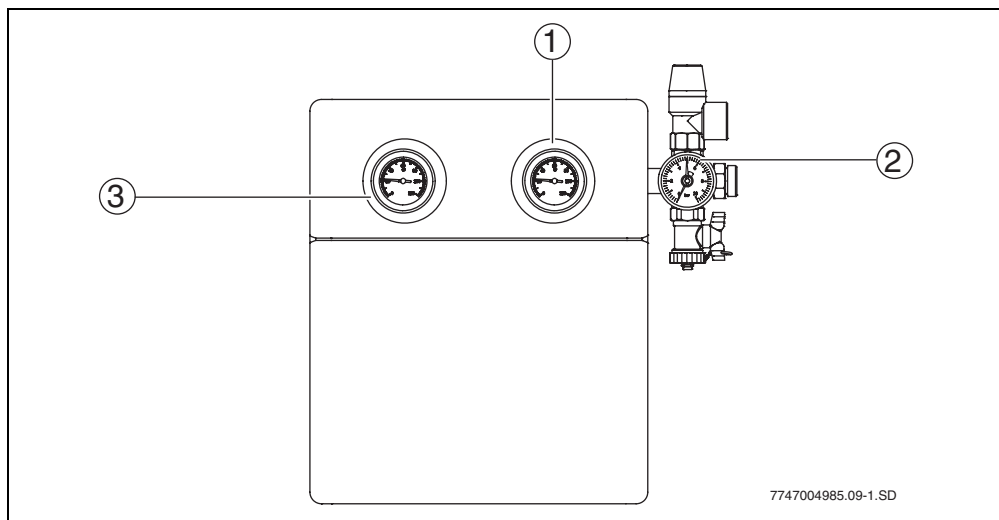

Fig. 7 Solar pump station
- Thermometers (→ Fig. 7, nos. 1 and 3):
- Pressure gauge (→ Fig. 7, no. 2):